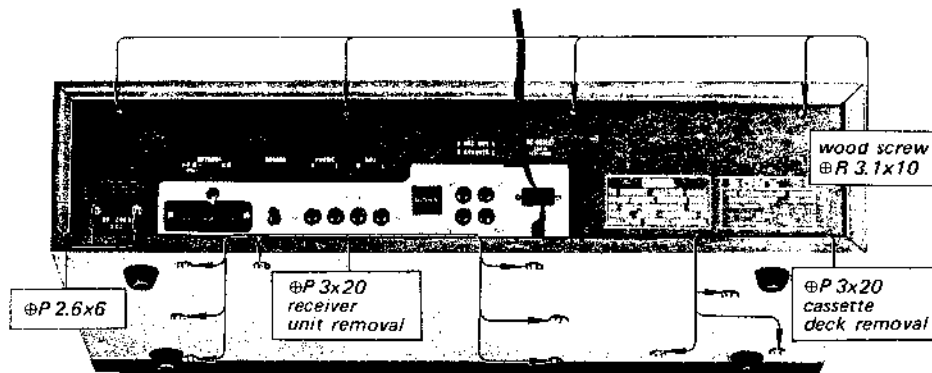

Fig. 2-2 Rear panel and bottom view
3. Remove the six screws at the rear hardboard; two of them (+P 2.6x6) secure the ATT switch, and the four others (wood screw +R 3.1x10) secure the hardboard to the wooden case. See Fig. 2-2.
4. Remove the seven screws (+P 3x20) at the bottom of the wooden case. See Fig. 2-2.